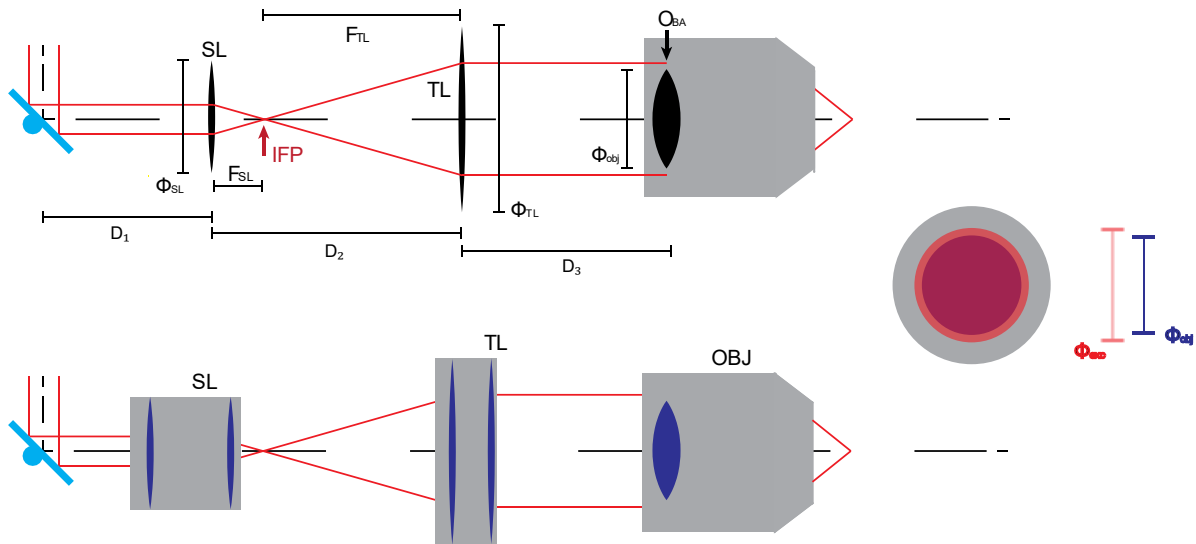

Figure 3. DL configuration. Ideal lenses approximation (top), objective back aperture overfilling (left) and typical configuration with stacked lenses (down).
5. Check objective's back aperture ( $O_{BA}$ ) filling factor ( $\emptyset_{exc}/\emptyset_{obj}$ ). To do so, turn on a regular scan mode at "high zoom" (i.e. with minimal movement of scan mirrors) without the objective in place. Use a laser viewing card in the position where the objective's back aperture would be to assess the setup's fill factor (i.e. the size of the laser spot relative to the objective's back aperture) (Fig. 3, 4). Alternatively, if your laser supports an alignment mode at a visible wavelength (typically low 700s of nm) you can also do this procedure with a piece of paper in place of the laser viewing card.